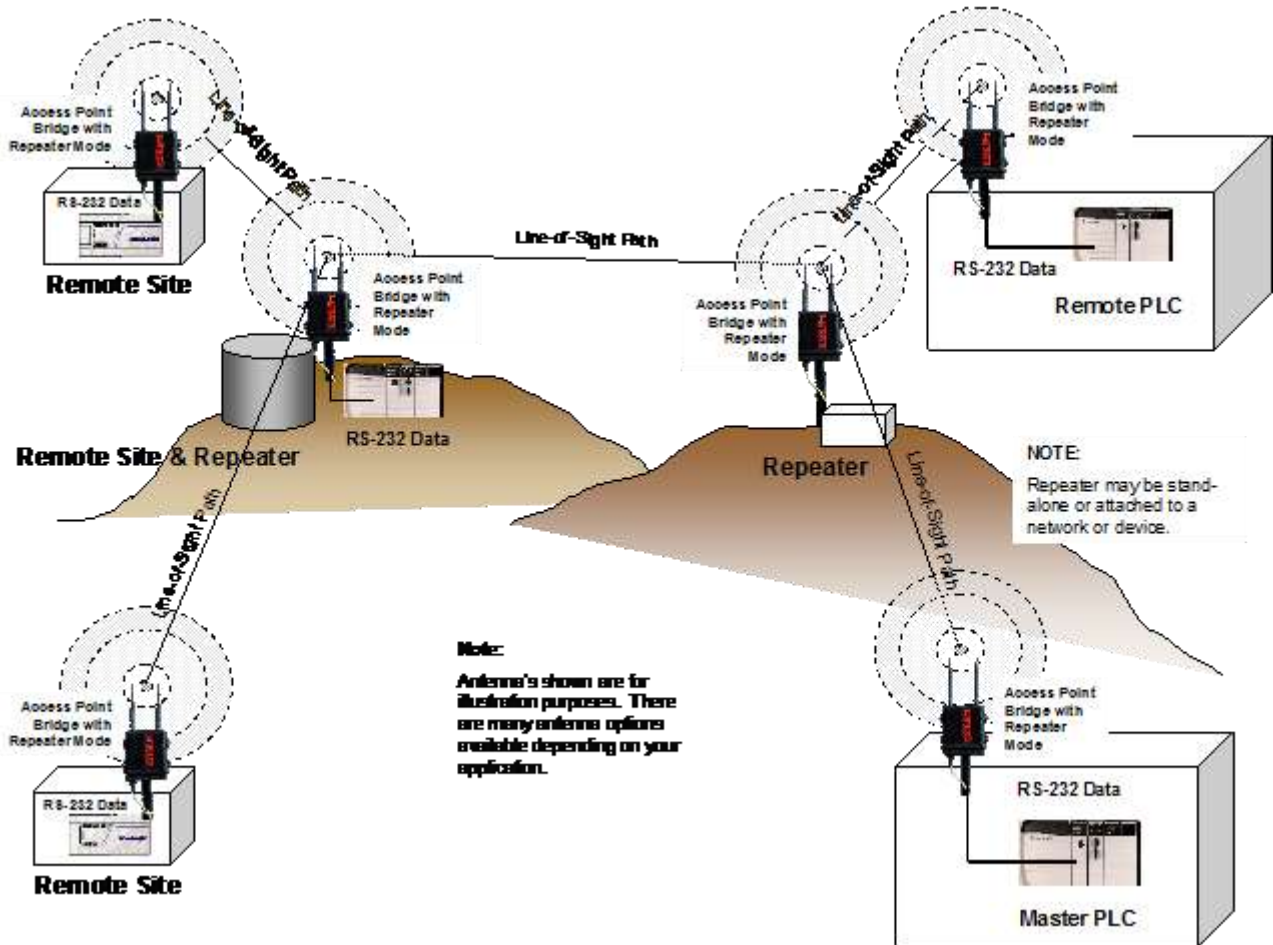

Figure 7: Serial Full Redirector Example
**Full Redirector Mode** - This mode allows bi-directional RS-232 data communication with other ESTeem Model 195Ea's. The RS-232 data transmission will appear transparent to the connected devices as if a serial cable is connected between the two ports. This mode will also be used in a multi-point serial network where all serial devices will need bi-directional communication (Figure 7).